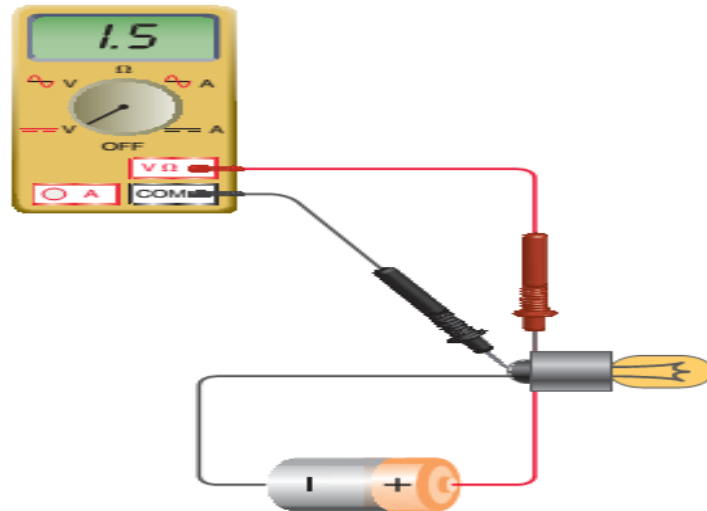

Figure 1.10 Voltmeter connected to measure voltage.
- A voltmeter is used to measure the voltage, or potential energy difference of a load or source, as illustrated in Figure 1.10.